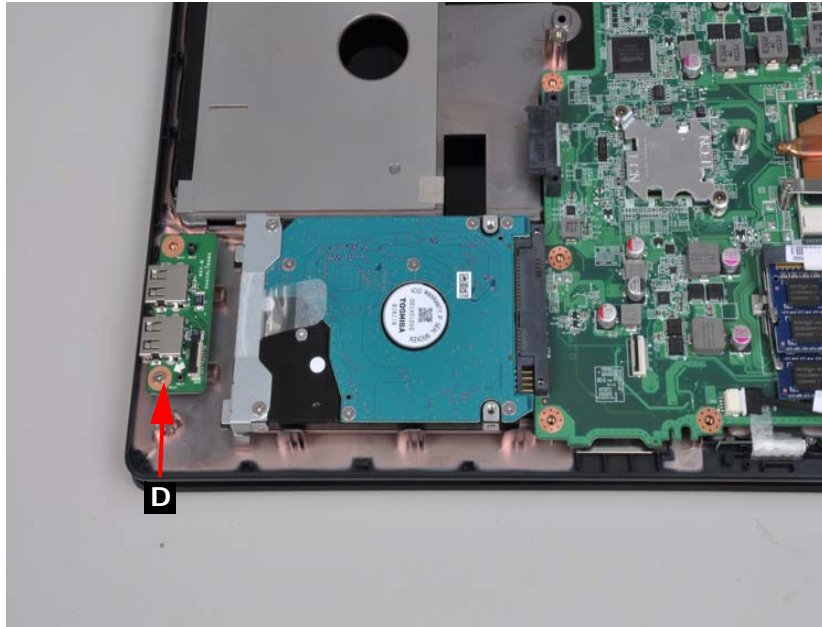

Figure 3-13. USB screw
3. Remove screw (D) from lower cover (Figure 3-13)
2. Install and secure screw (D) to lower cover (Figure 3-13).